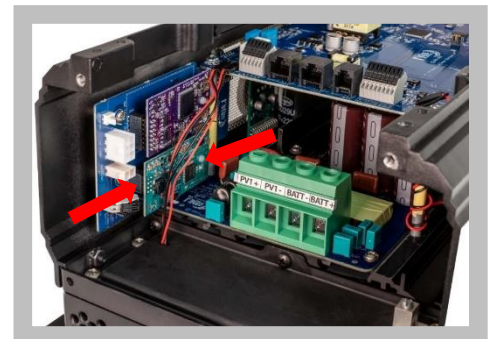

Figure 12
1. The RSS sub-board (green) connects to lower half of Options Board, **Figure 12**.